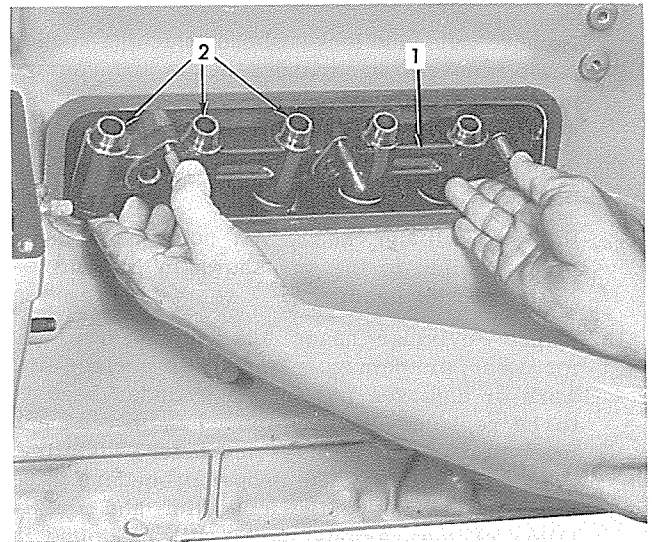

Fig. 8 — Removing Valve Lifters and
3. In order to remove valve lifter covers from left side of cylinder block, remove fuel injection pump and fuel filters (refer to "FUEL SYSTEM" Section). Remove front and rear valve lifter covers. Remove locking wires (11), capscrews (10), and lockwashers attaching valve lifter brackets (9) to cylinder block, and remove valve lifter brackets and valve lifters as shown in Fig. 8. When removing brackets and lifters, use care to prevent lifters (2) and hollow dowels, Fig. 2 (8) from falling